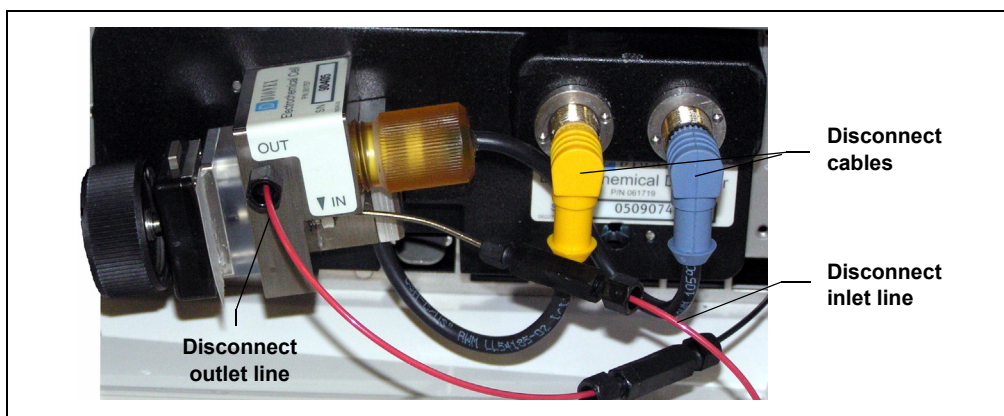

Figure 9-32. Disconnecting the Amperometry Cell (Titanium Cell Shown)
3. Disconnect the inlet and outlet lines from the amperometry cell and disconnect the two electrical cables (see Figure 9-32).